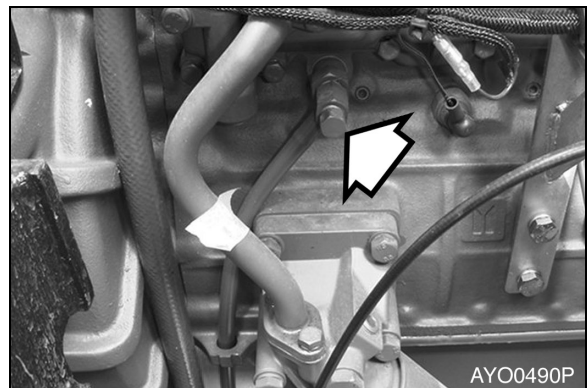

Figure 75
4. Remove coolant drain plug (1, Figure 75) from engine.